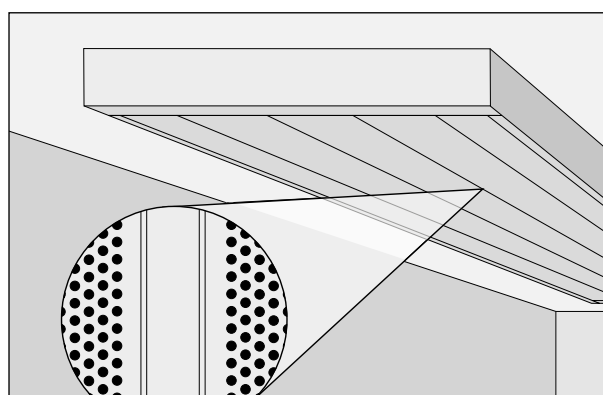

Figure 2. Atrium in perforated design.
**Perforation:** A perforated cooling and heating panel provides increased sound attenuation in the room. With this option, the standard insulation of the panels is replaced with sound-absorbing mineral wool insulation. (see fig. 2). The available perforation is Dot 3 mm with a perforation degree of 25%.